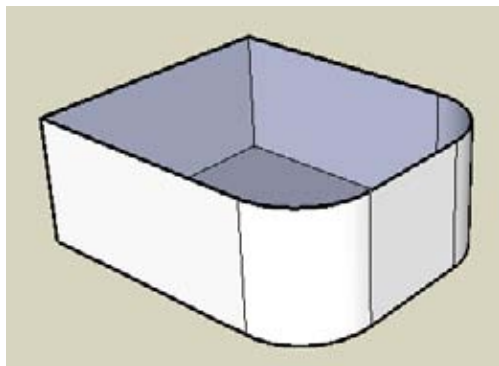

Figure 4-63
1. Start with a box with two rounded corners and no top face (Figure 4-63).